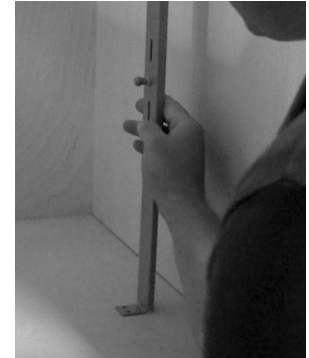

FIGURE 8A
Attach the telescopic foot to the lower stud mount using the #8-32 X 1/2" machine screws and flat washers provided (do not fully tighten). The stud mount is threaded so there is no need to use a nut and the foot itself is slotted. Once you are sure the foot is in full contact with the floor of the cabinet, tighten the machine screws. Now that the foot is the correct length attach it to the floor of the cabinet using (2) #8 x 5/8 deep thread screws provided. Make sure the foot and stud mount are perpendicular to the floor of the cabinet and do not lean left or right (this will cause interference with the gas spring that operates the waste container). (SEE FIGURE 8A)